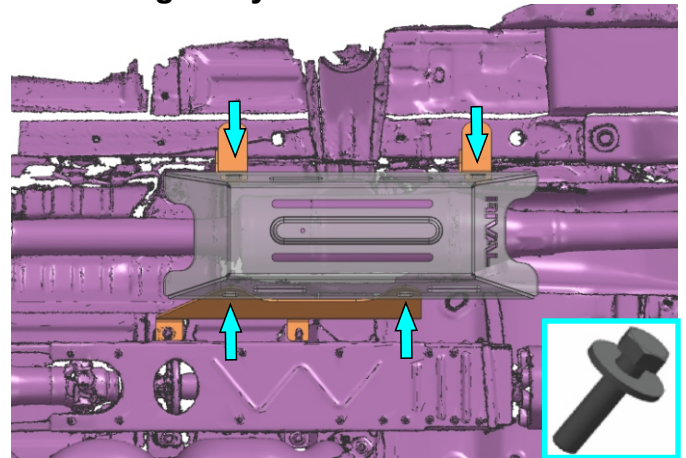

Fig. 4
4. Secure skid plate (item 1) using bolts M8x25 and washers M8 (items A,B) as shown in fig.4.